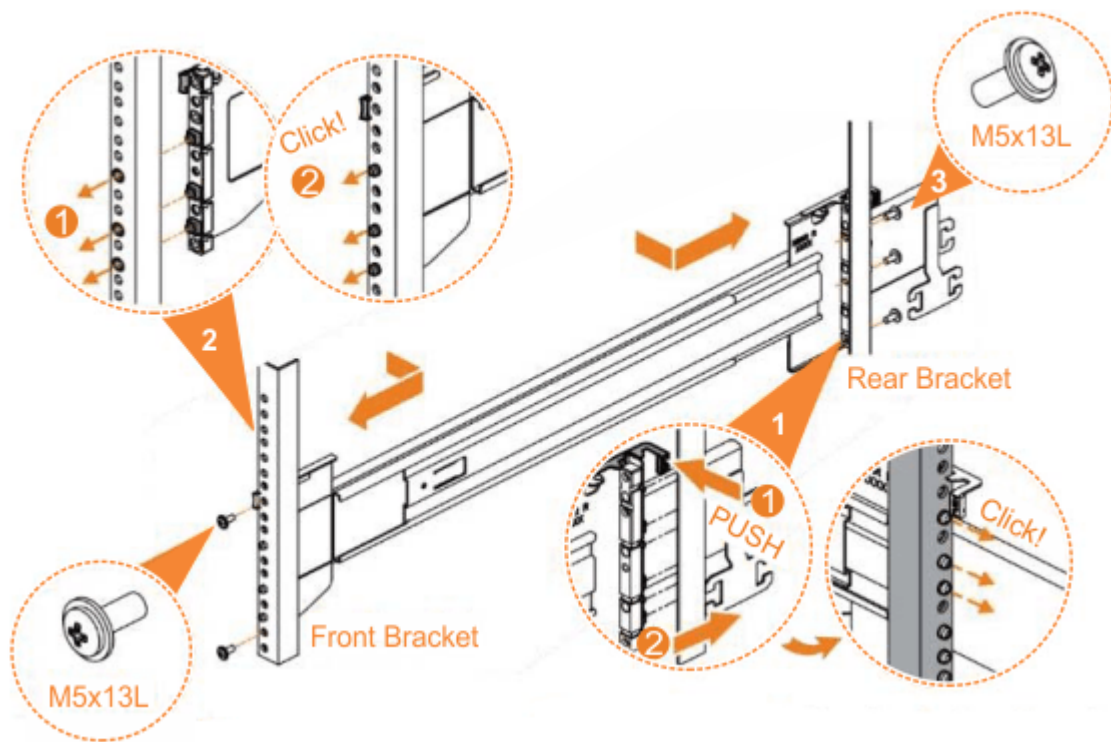

Figure 34. Installing the rail assembly to the rack frame
6. Use the M5 screws to install the outer rail member and bracket assembly to the rack, as shown in Figure 34 on page 42.